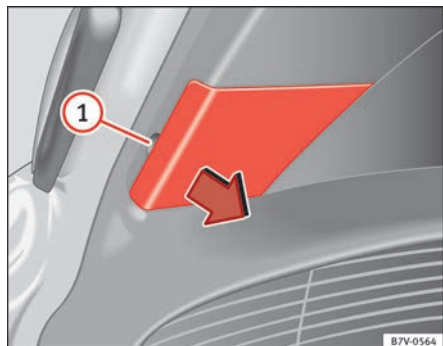

Fig. 209 On the boot lid:
3. Extract the cover carefully using the flat part of the screwdriver as a lever (⇒ fig. 198) on the indent ⇒ fig. 209 ①.